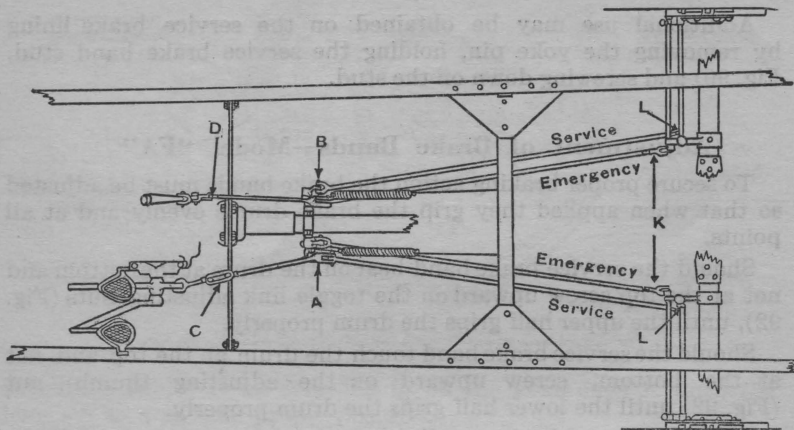

Fig. 93—Brake adjustment, Model FA
on the brake bands, shorten the rods between the pedal or lever and the brake shaft on the propeller shaft housing by screwing the turnbuckle (C), or adjusting yoke end (D) (Fig. 93) to the right.